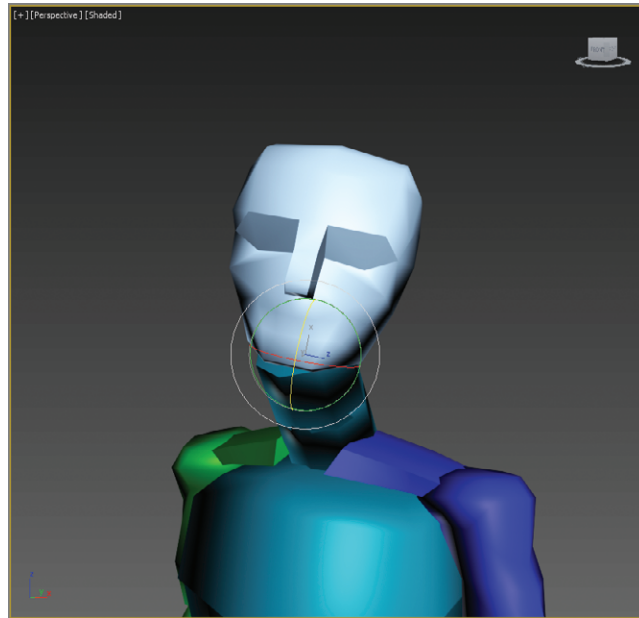

FIGURE 13.4 Rotate the head to the left and up.
7. Click the Rotate button and rotate the head, as shown in Figure 13.4, to the left and up, as if the character sees somebody in a second floor window offscreen.